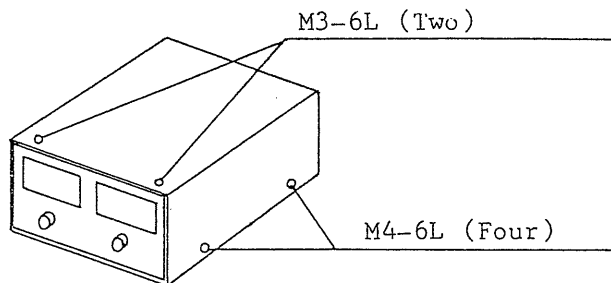

Figure 5-1
- o To remove the cover, see Figure 5-1.